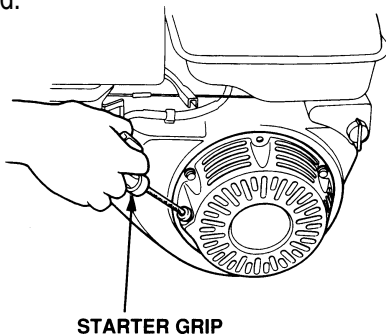

Figure 11. Starter Grip
- Pull the **starter grip** (Figure 11) lightly until you feel resistance, then pull briskly. Return the starter grip gently. Push the clutch lever forward, toward the tow tongue end of the mixer. When engine starts adjust throttle lever so that paddle shaft inside mixer rotates between 30 - 40 RPM's. The number of RPM's will vary depending on engine type and load.
- Place the electric motor's **start/stop** switch (Figure 11) in the **OFF** position.